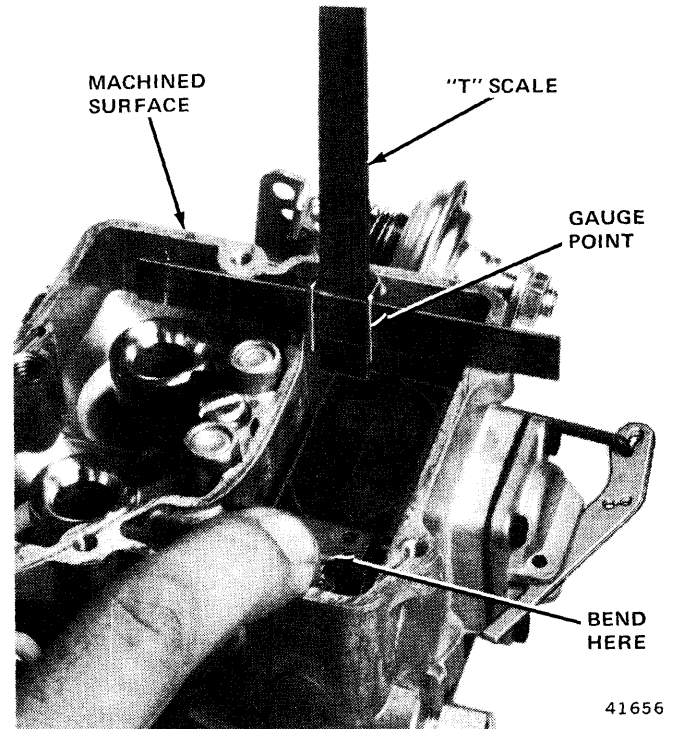

Fig. 4-105 Dry Float Level Adjustment
(1) Remove air horn assembly and gasket. Raise float by pressing down on float tab until fuel inlet needle is lightly seated.
(2) Using a T-scale, measure distance from the fuel bowl machined surface to the flat surface of either corner of the float at the free end. Refer to Carburetor Service Specifications for the correct setting.
(3) Bend float tab to adjust. Hold fuel inlet needle off its seat while adjusting to prevent damage to the Viton-tipped needle (fig. 4-105).